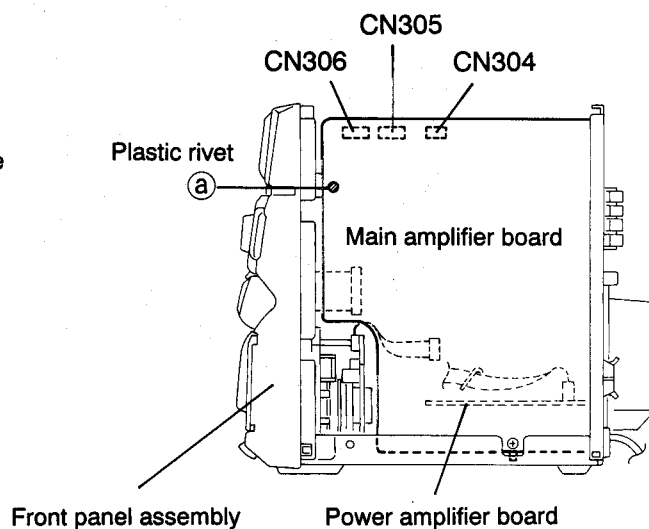

Fig. 5-4
5. Remove the plastic rivet ① fastening the main amplifier board and front panel assembly to the left side panel of the main unit. (See Fig. 5-4)